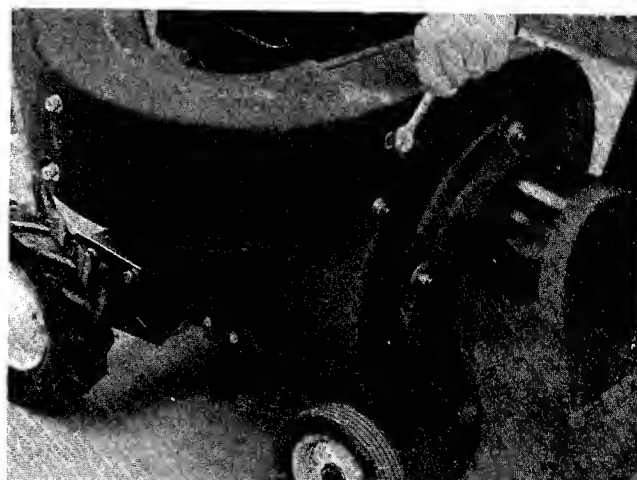

FIGURE 3
4. Place the air duct in position on the blower housing. Fasten with four (4) flat washers (D) and hex nuts (B). See figure 3.